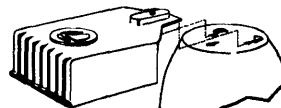

Fig. 6
1. Secure trim to die-cast socket housing by inserting corners of housing into raised tabs on reflector and aligning screw in keyhole slot. Push socket housing forward and secure assembly by tightening retaining screw. (See Fig. 6)
1. Remove door and lens from spun aluminum reflector trim; secure trim to die-cast socket housing by inserting corners of housing into raised tabs on reflector and aligning screw in keyhole slot. Push socket housing forward and secure assembly by tightening retaining screw (See Fig. 6).